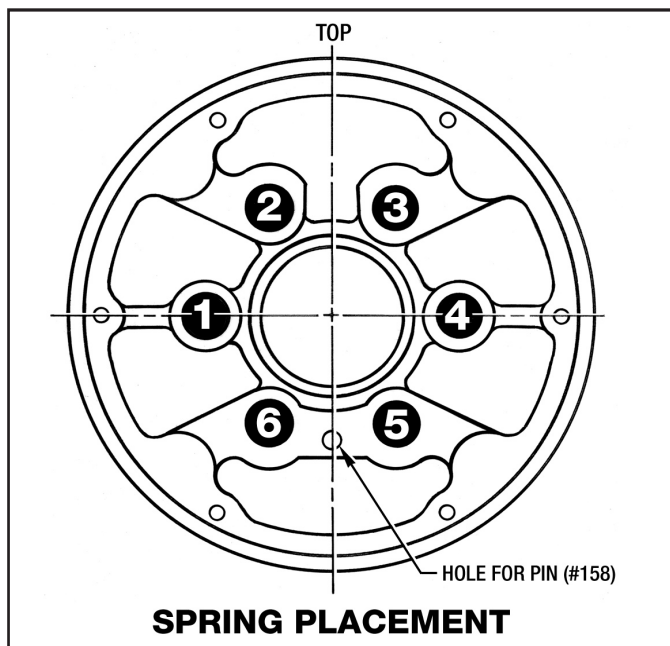

Figure 9.7 - Correct Placement of Springs (#36)
5. Place the proper number of Springs (#36) into their prospective spring pockets. (See Figure 9.7)
6. Lubricate the (6) small O-Rings (#34) and install them into the back face of the Piston Housing (#10).
7. Lower the Piston and Piston Housing Assembly down and on the Housing (#8). Make sure the spring pockets in the Piston (#3) align with the Springs (#36). Also the Pin (#158) in the Piston has to be aligned with the small hole at the bottom of the Housing (#8) as shown in Figure 9.7.
8. Attach the Piston Housing (#10) to the Housing (#8) with (6) Screws (#153) and (6) Lockwashers (#127). **Tighten in an even manner to compress the Springs (#36) correctly. Torque to 14 Lb. Ft.**